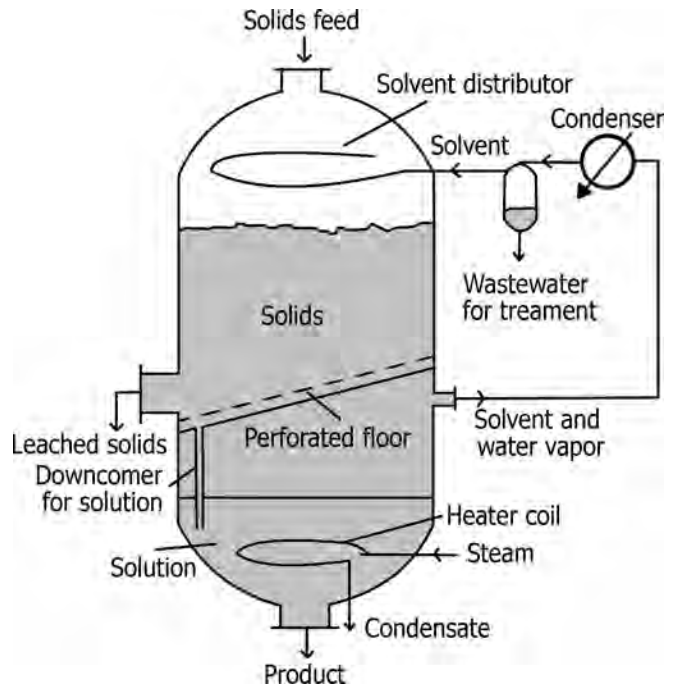

FIGURE 17.66 Percolator type extractor for extraction of oils from oil seeds.
- The extractor consists of a vertical cylindrical vessel divided into two sections by a slanting partition, as shown in Figure 17.66. The upper section is filled with the charge of seeds that is sprayed with fresh solvent via a distributor.